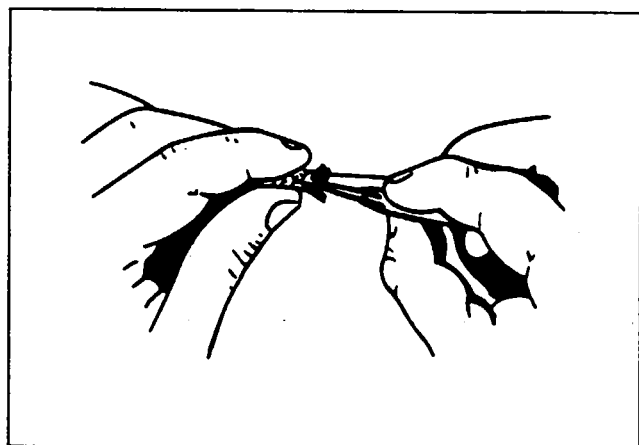

Figure 8-25. Unbraiding Metallic Shielding
9. Using a scribe or similar pointed tool, unbraid 0.375 inch of braided shielding. (Refer to Figure 8-25.) Wrap a single thickness of electrical tape around unbraided strands to facilitate insertion of lead end thru hole in cable outlet plate.